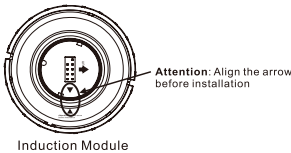

Figure 27
Step 1: Adjust the induction module to align the arrows above.(Figure 27)